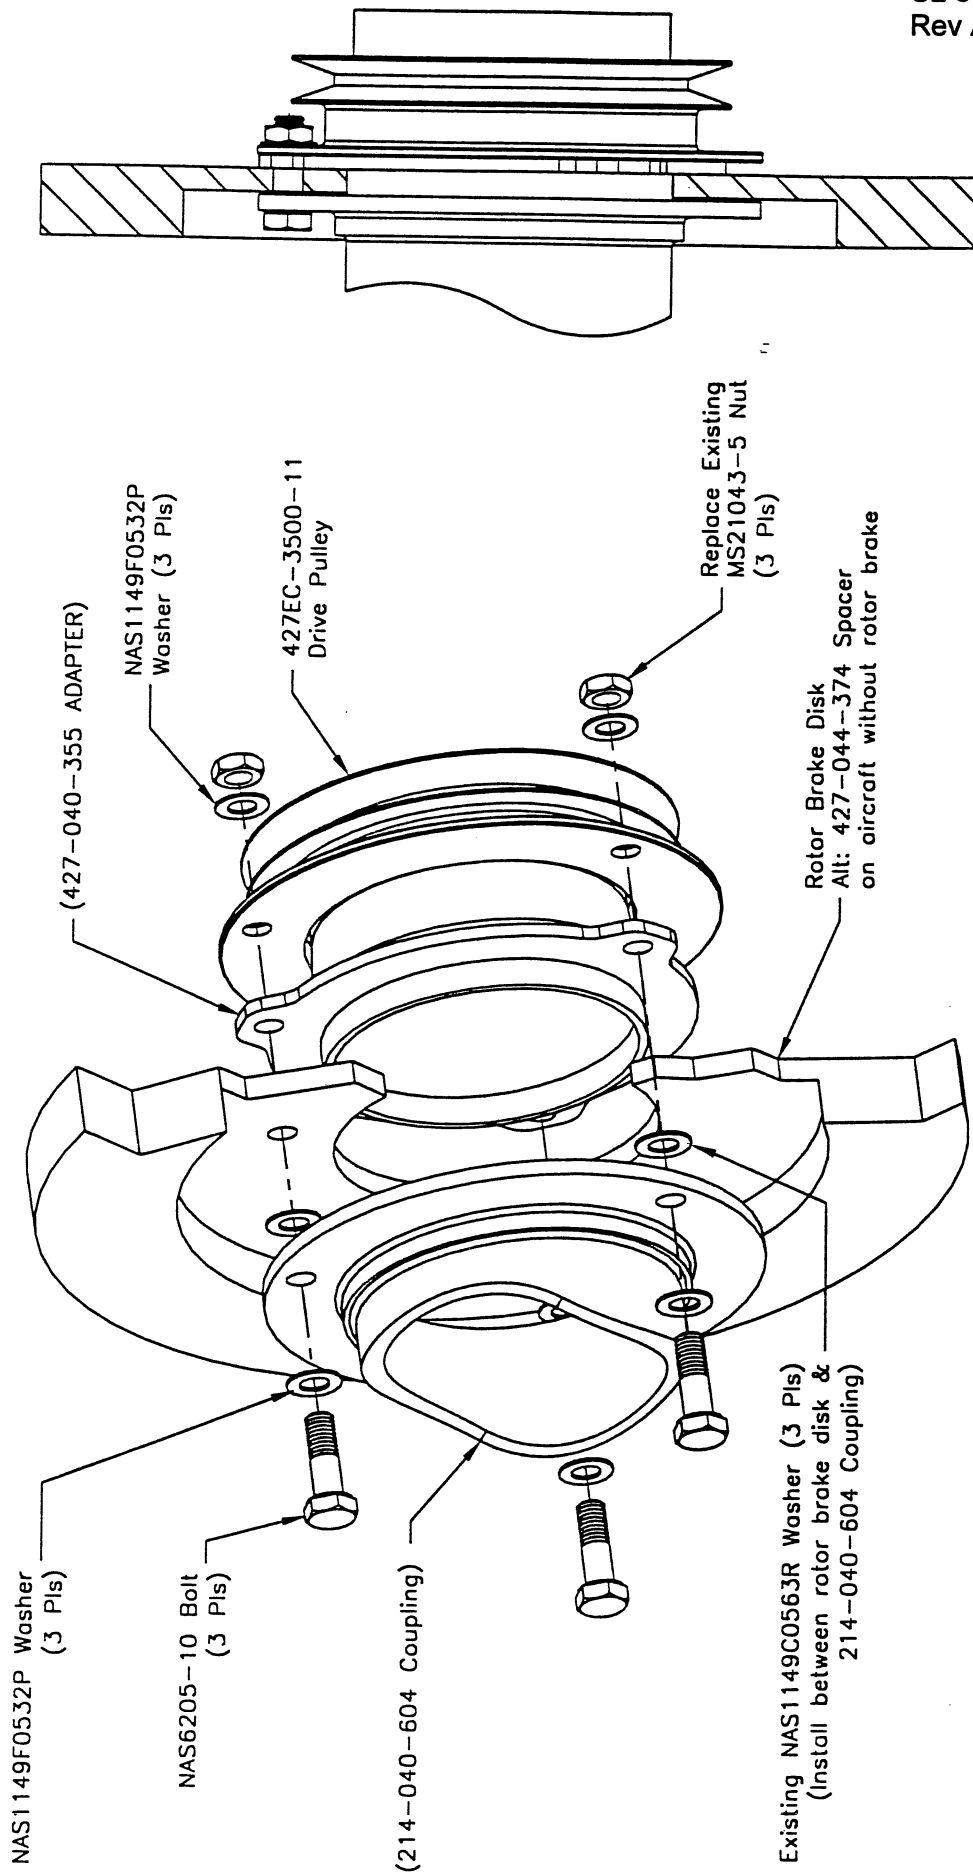

Fig. 1-2 Driveshaft Installation (Exploded / Side View)
- C. Disconnect the #1 Tail Rotor Drive Shaft segment from the Tail Rotor output coupling, in accordance with the Bell Helicopter, BHT-427MM, Chapter 63-00. (See Fig. 1-2)
- B. Reconnect the #1 Tail Rotor Drive Shaft segment to the Tail Rotor output coupling, in accordance with the Bell Helicopter, BHT-427MM, Chapter 63-00. (See Fig. 1-2)